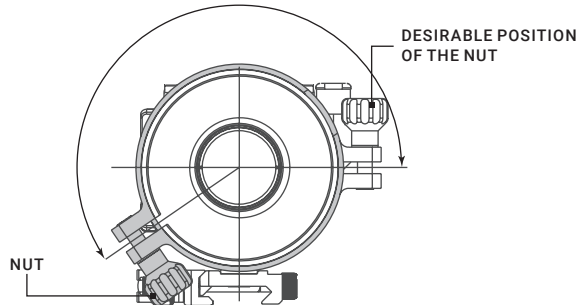

FIGURE 2-8. ESTIMATION OF THE FSM TURNING ANGLE
1. Decide on desirable position of the nut and estimate the angle through which the FSM should be turned CW (see Figure 2-8).